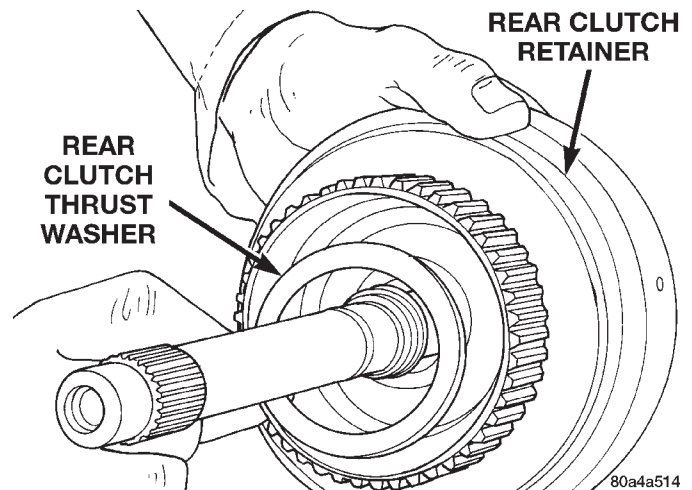

Fig. 147 Installing Rear Clutch Thrust Washer
(16) Coat rear clutch thrust washer with petroleum jelly and install washer over input shaft and into clutch retainer (Fig. 147). Use enough petroleum jelly to hold washer in place.